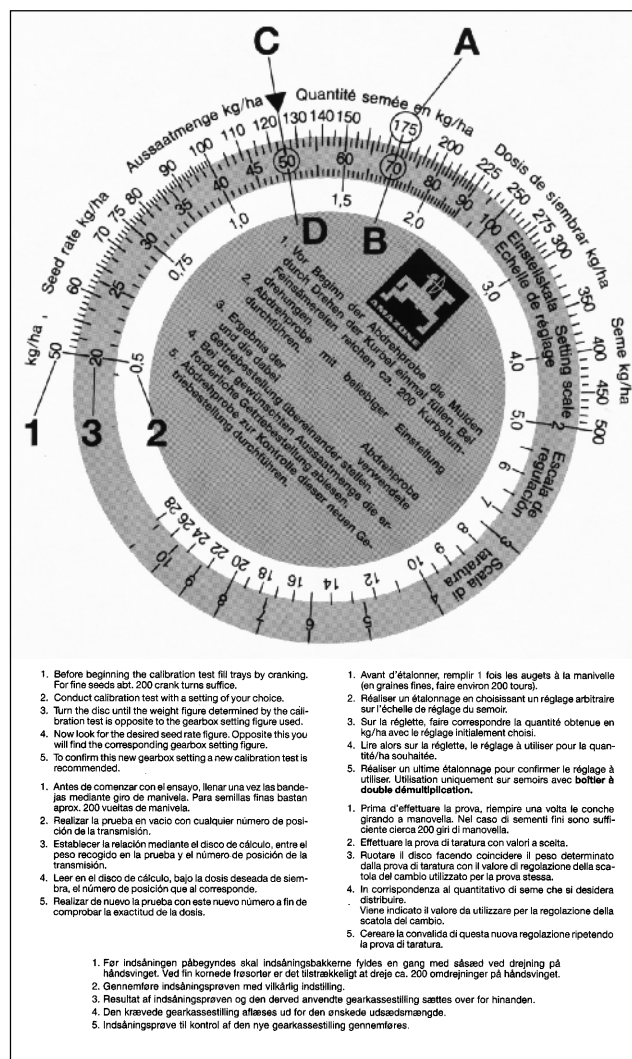

Fig. 11.14
The disc rule consists of three scales: an outer white scale (Fig. 11.14/1) for all seed rates above 30 kg/ha and an inner white scale (Fig. 11.14/2) for all seed rates below 30 kg/ha. The central, coloured scale (Fig. 11.14/3) shows the gearbox settings from 1 until 100.
- Take the disc rule and align the seed rate 175 kg/ha (Fig. 11.14/A) and the "gearbox setting figure 70" (Fig. 11.14/B).
- Now read off the disc rule the gearbox setting for the required seed rate of 125 kg/ha (Fig. 11.14/C). In our example this is the "gearbox setting figure 50" (Fig. 11.14/D).